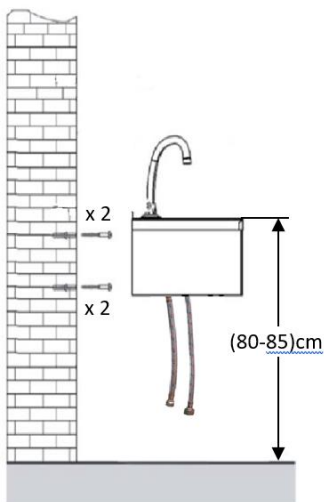

Fig.5
- Hang the product onto the wall screws already pointed to the wall plugs and then tighten them so that the product is safe (Fig.5). It is essential to confirm that it is level and well secure!